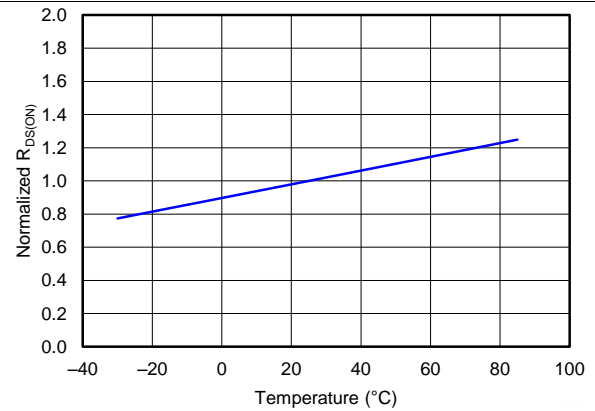

**Figure 1. Thermal Shutdown Operation**
(1) Shown in Figure 1.
(2) Parameters provided for reference only, and do not constitute part of TI's published device specifications for purposes of TI's product warranty.
(3) Excludes soft-start time